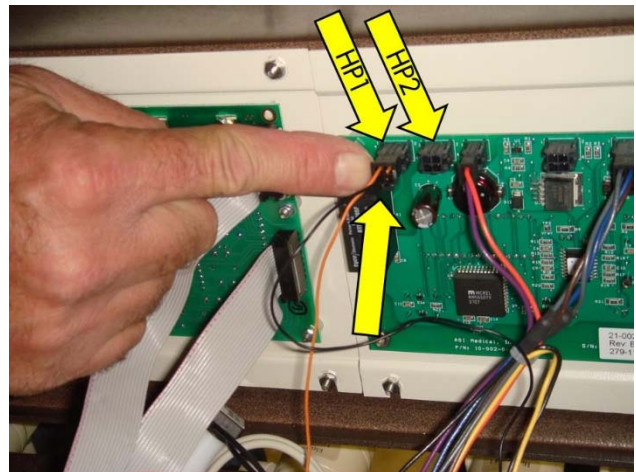

Fig. 9
11. Reconnect the Molex connector in the correct HP1 or HP2 position of the board. (Fig. 9)